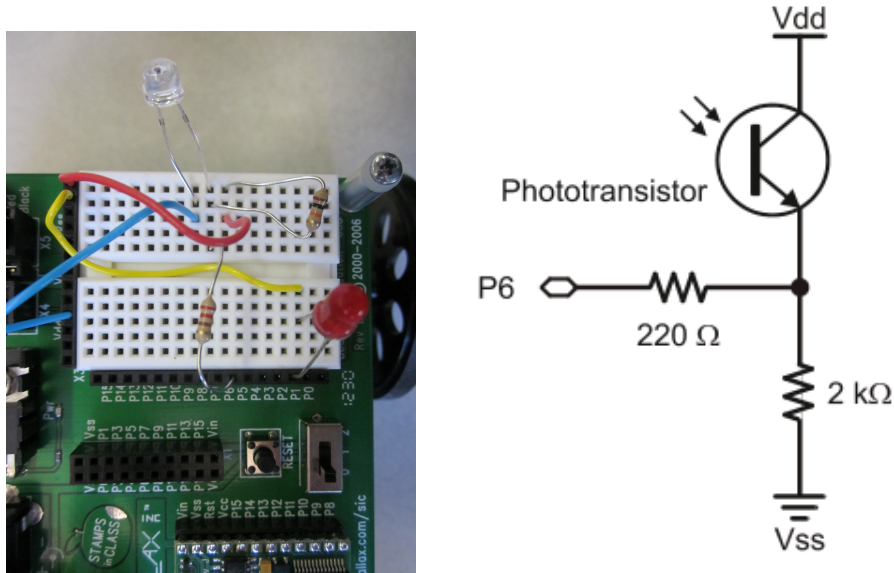

Figure 19: Whiskers wired to bread board (left) and wiring schematic (right).
2. Build the circuit shown in Figure 19.